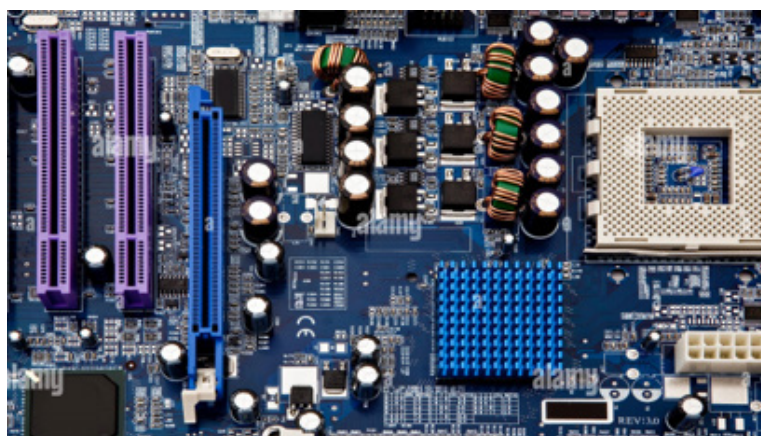

Figure 1.11: Silicon microchips on a printed circuit board (Alamy, 2009)
1. Microcontrollers and sensors: Semiconductors are used to make microcontrollers and sensors that control machines and monitor processes in factories (Figure 1.11).